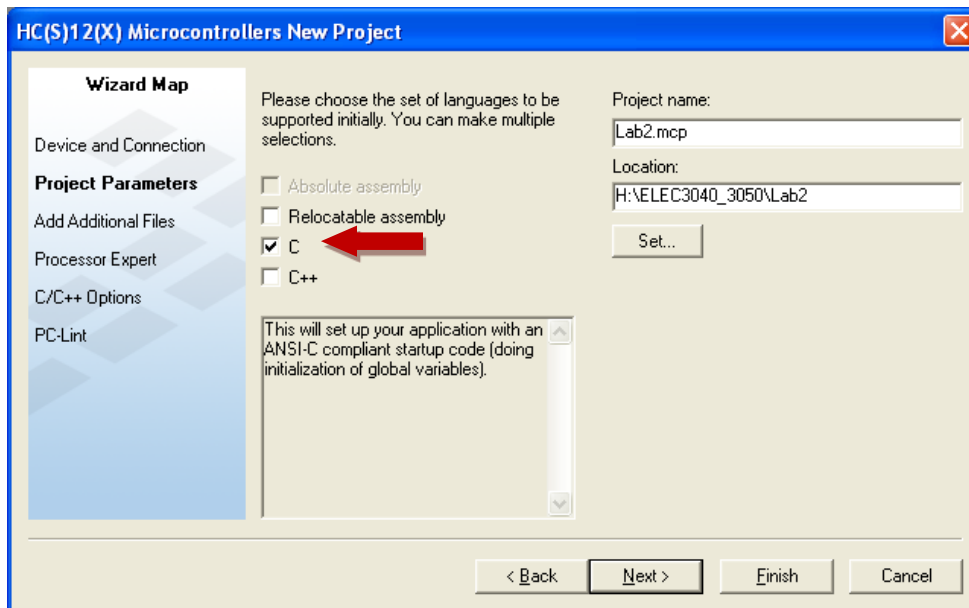

Figure 13. Select C instead of Absolute assembly.
- On the Project Parameters form (Figure 13), select C instead of assembly.